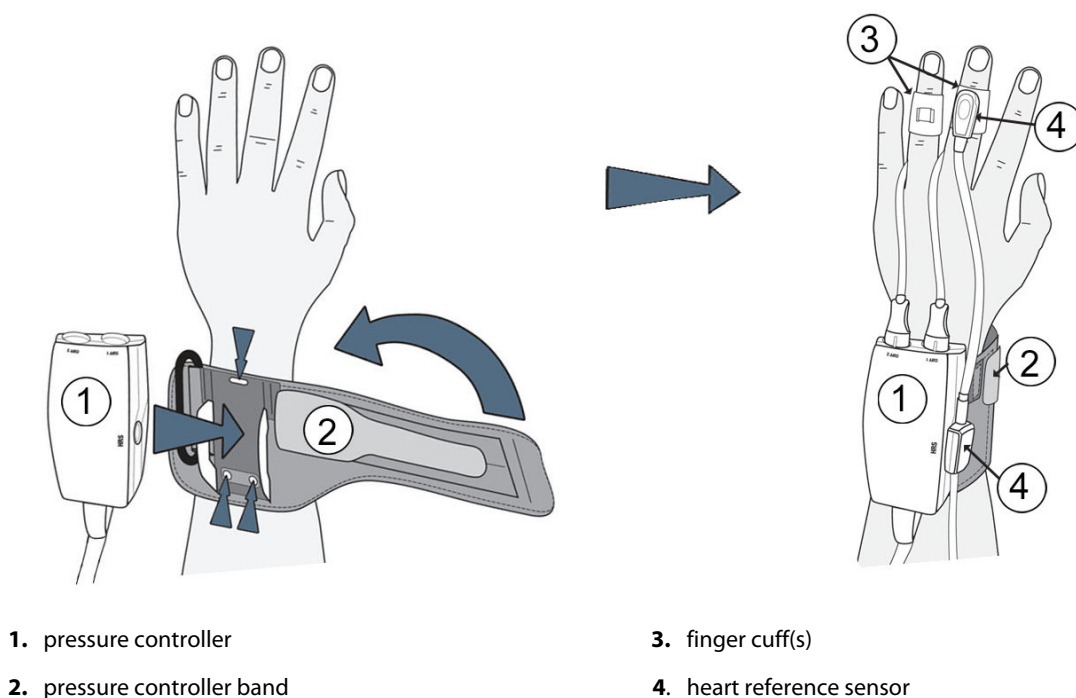

Figure 11-2: Pressure controller application
The pressure controller kit (PC2K or HEMPC2K) consists of a pressure controller (PC2 or HEMPC) and accompanying band (PC2B). A pressure controller cover is available as an accessory. The pressure controller cover secures the heart reference sensor into the pressure controller. See Pressure Controller Cover on page 334. Device performance, including functional characteristics, have been verified in a comprehensive series of testing to support the safety and performance of the device for its intended use when used in accordance with the established Instructions for Use. The pressure controller is worn on the patient's wrist and connects to the HemoSphere ClearSight module, HRS and finger cuff(s). See Figure 11-2 on page 192.
1. Wrap the pressure controller band around the patient's wrist. The non dominant hand is preferred for monitoring in awake patients. (Figure 11-2 on page 192, left)